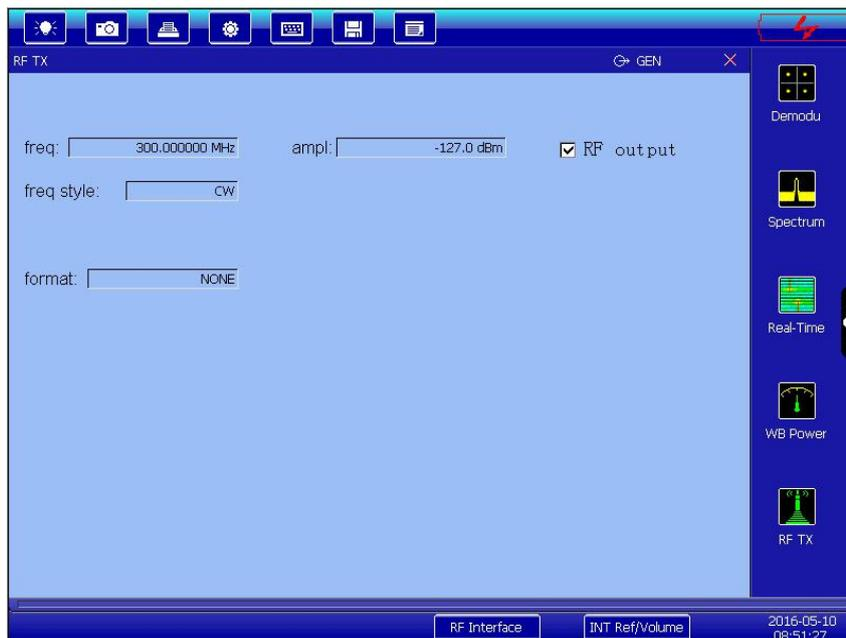

Fig. 4-1 RF TX startup interface
- 4) Click **[ RF output ]** in the upper left of the screen to enable the signal output function. After that, the dot frequency signal is output from the RF output connector, with the display interface shown in Fig. 4-1.